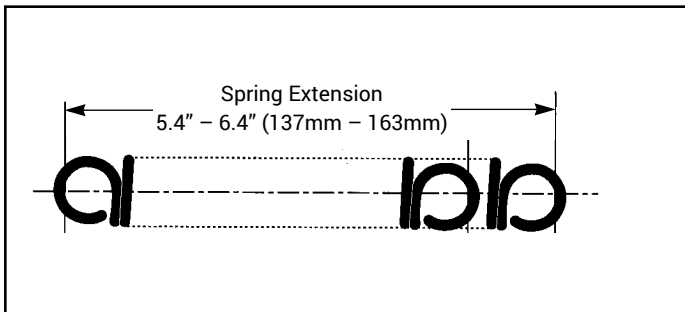

Figure 3-7
**NOTE:** When engaged the spring should be extended to a dimension of 5.4" – 6.4" (137mm – 163mm). Figure 3-7